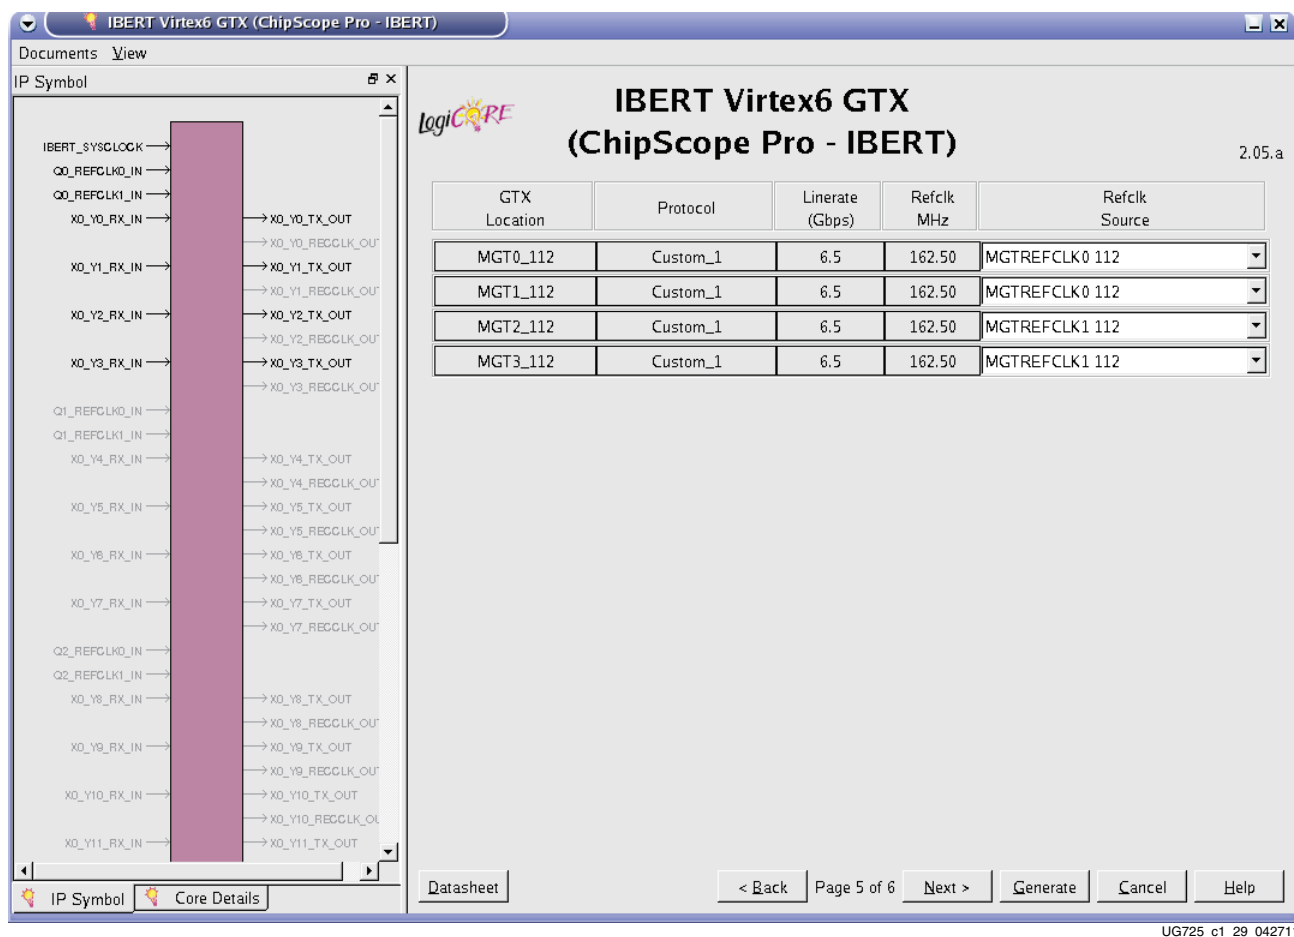

Figure 1-29: IP Customization, Page 5
- After page 5 of the IP customization window appears, select the dedicated reference clocks for the GTX quad of interest (i.e., for the Q112 quad select the 112 reference clocks). For the top two transceivers (MGT0/1) select MGTREFCLK0, for the bottom two transceivers (MGT2/3) select MGTREFCLK1 (Figure 1-29).